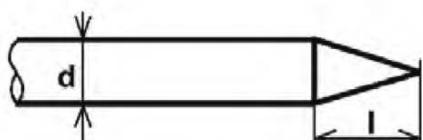

Fig. 15
- with negative balancing the sharpening of the infusible electrode will be in a cone shape (length sharpening $I = 1 \times d$ - Fig.15) to obtain a concentrate electric arc, required when welding thin thickness or to improve the penetration and productivity to the medium-high current; on the other side with positive balancing and medium to low current values the electrode tip is rounded (hemispherical) and the electric arc less concentrated making it suitable for butt welds (butt joint) and on the outer corners.